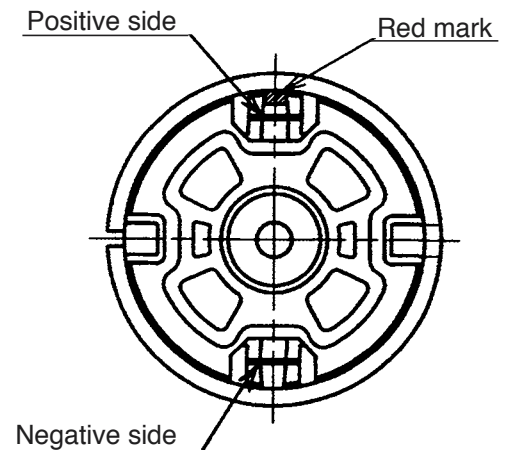

Fig. 5
- (b) Pay attention to the polarity of the Motor [25] <25> when soldering Internal Wires [30] <31> and [31] <32> to the Motor [25] <25>. The red-marked side of the Motor [25] <25> is positive. (See Fig. 5.)